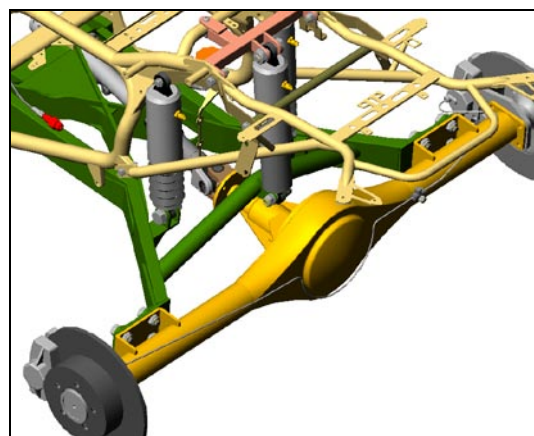
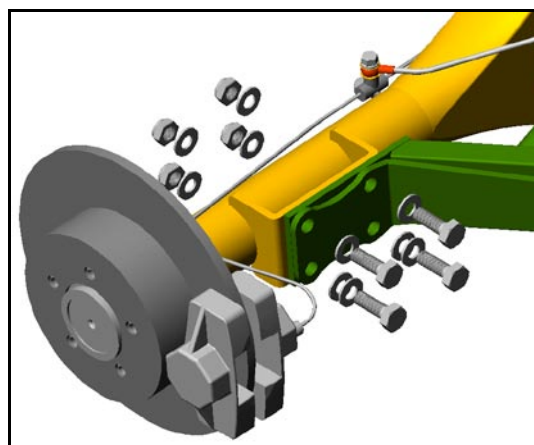

Figure 30
Figure 31
- Install rear end assembly to swing-arm using supplied hardware. Torque to 90 lbs. ft. Figure 30 & Figure 31